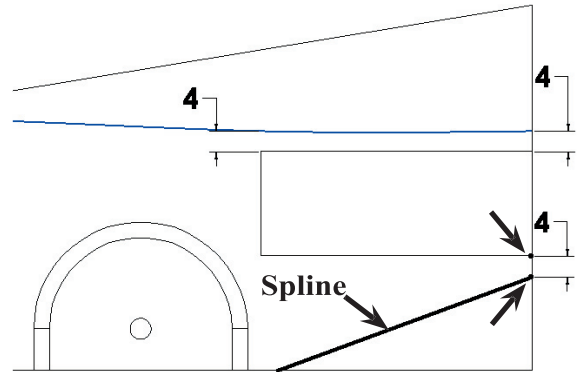

Fig. 27
Step 13. Click **Spline**  (S) on the Sketch toolbar.
Step 14. Draw a spline from the **bottom edge of the sketch to the back of the sketch under cartridge cutout**, **Fig. 27**. Press Escape to end the spline.
Step 15. Click **Smart Dimension**  (S) on the Sketch toolbar.
Step 16. Add **dimension between end of spline and cartridge cutout bottom back corner** as shown in **Fig. 27**. Smart dimension the end of spline point and the cartridge back corner. Key-in **4** for the dimension and press ENTER.